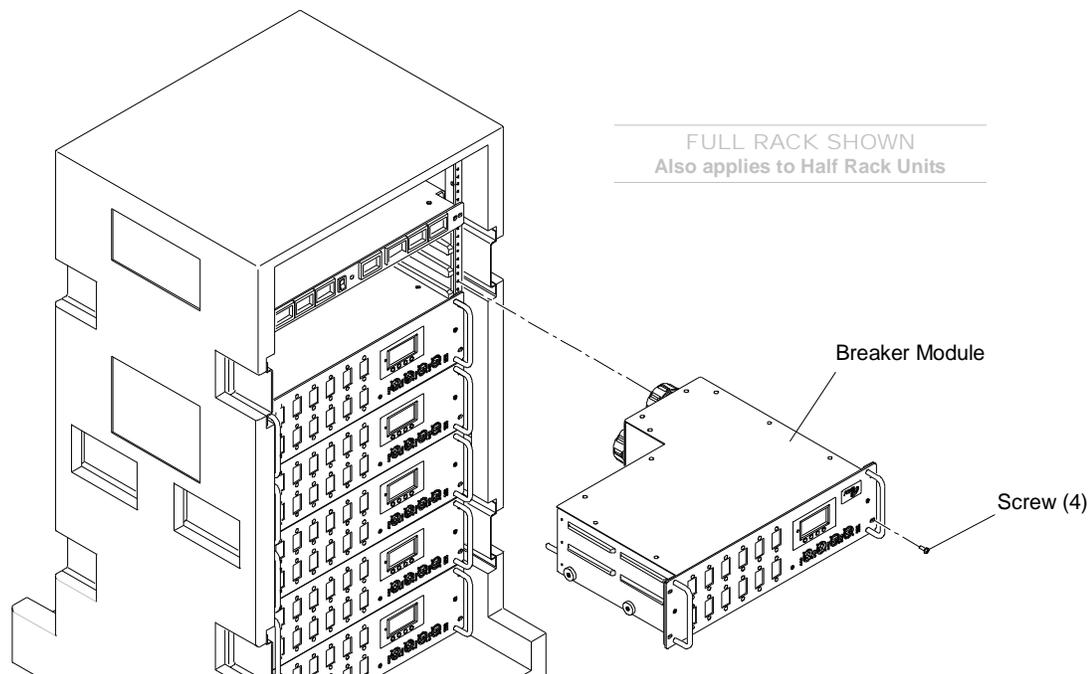

Figure 4-4: Replacing a Breaker Module
- Step 3. Remove four screws securing module (**Figure 4-4**). Using handles, pull module straight out of rack.